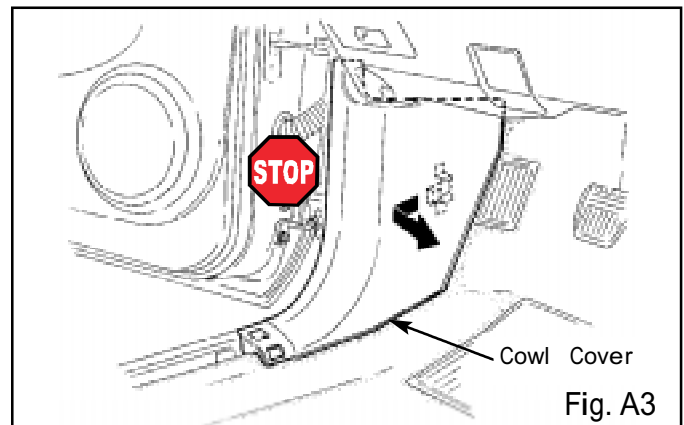

Fig. A3
3. Remove the driver's cowl cover. (Fig. A3)